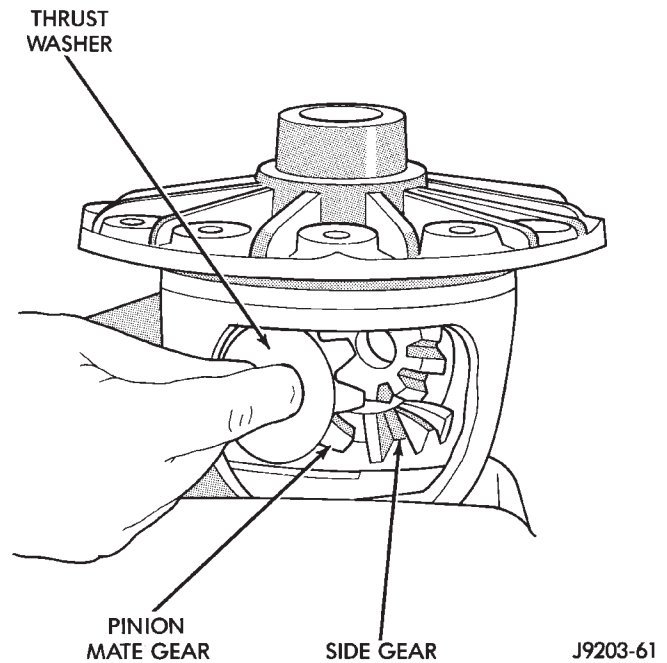

Fig. 15 Pinion Mate Gear Removal
(3) Rotate the differential side gears and remove the pinion mate gears and thrust washers (Fig. 15).
(4) Remove the differential side gears and thrust washers.